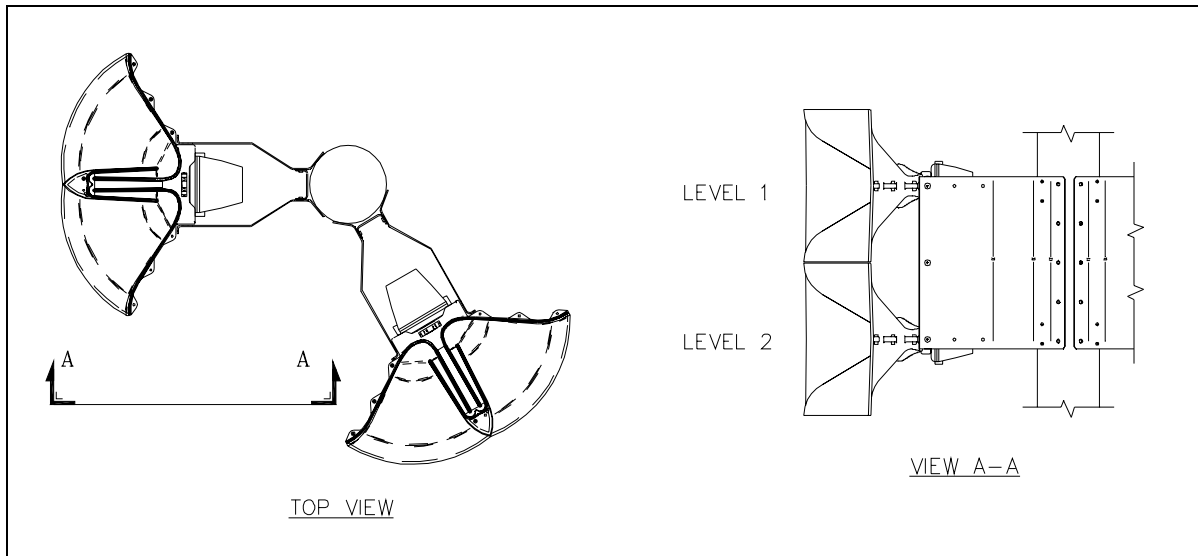

Figure 2. Arrangement 240-2
2. **240-2:** In this arrangement two kits are used to mount two speaker brackets side by side for 240° of coverage. Four speaker horns may be mounted in this manner by using both levels of the bracket assembly. This configuration requires two kits. See Figure 2.